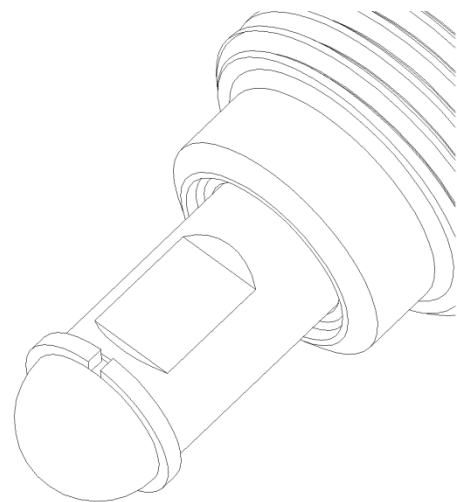

Figure 3
9. Depress the sleeve to expose the flats on the plunger. Refer to Figure 3. Put a 8mm (5/16”) spanner on the flats of the plunger. Using the spanner and allen key, tighten the grub screw to secure the sleeve in place.